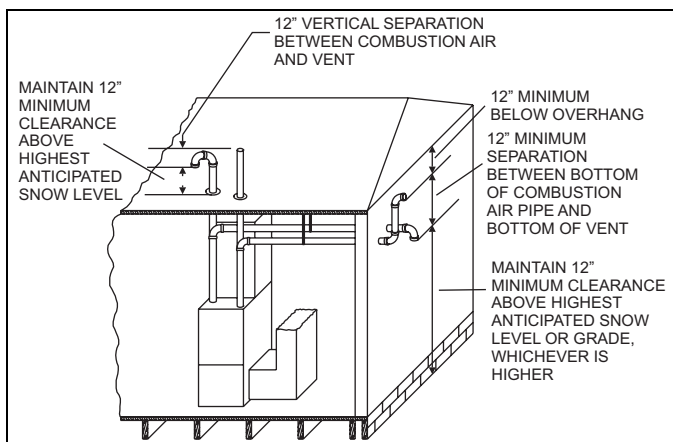

FIGURE 15: Termination Configuration - 2 Pipe
The combustion air side of the single pipe configuration shown in Figure 21 is referred to in these instructions as ambient combustion air supply. Follow the instructions for ambient combustion air installations, paying particular attention to the section on air source from inside the building. The vent for a single pipe system must be installed as specified in the venting section of these instructions with the vent terminating as shown in Figure 15. Each furnace must have a separate vent pipe. Under NO circumstances can the two vent pipes be tied together.
2. **AMBIENT COMBUSTION AIR:** (Modular Homes: Not approved for installation in HUD approved homes). Combustion air is supplied from the area surrounding the furnace through vents or knockouts in the furnace casing. The combustion air and the vent pipes are not terminated in the same atmospheric zone. Refer to Figure 15 for vent terminations. Refer to "AIR SOURCE FROM INSIDE THE BUILDING" and "VENT AND SUPPLY AIR SAFETY CHECK" for proper installation. Refer to Figure 21.